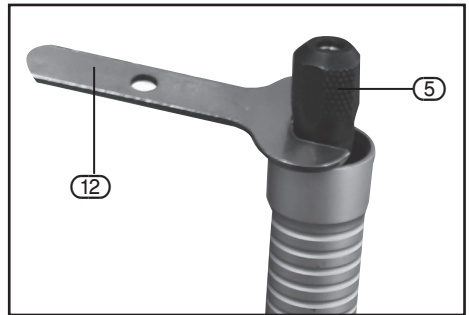

FIG.5
9.3 INSTALLING/REMOVING ACCESSORIES – FIG.5